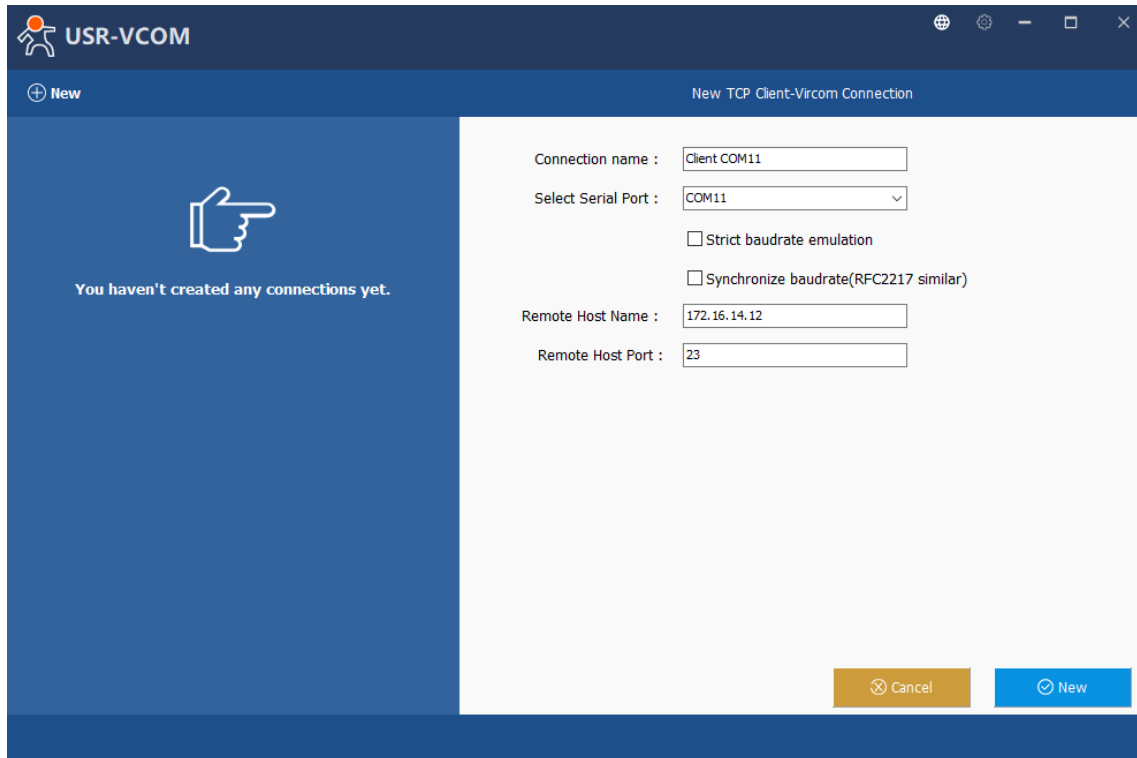

Fig. 62 Virtual COM port mapping
1. Click on the “system setting” tab on the menu frame on the left side of Web UI to go to system setting page as shown in Fig.62.